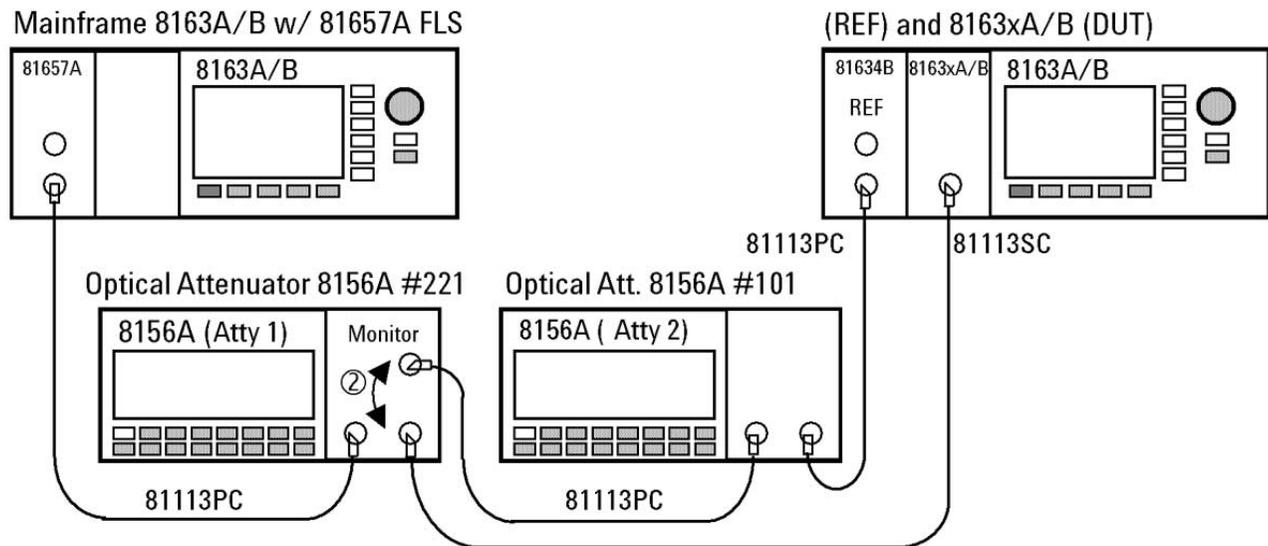

Figure 4 Measurement Setup for Power Linearity
- 3 Setup the equipment as shown in Figure 4 . Disable both attenuators and enable the laser source, where the source wavelength is chosen to 1550 nm. If you are using the 81657A, move to the wavelength parameter, [λ], press *Enter*, select the longer wavelength source (1550 nm nominally), and press *Enter*.